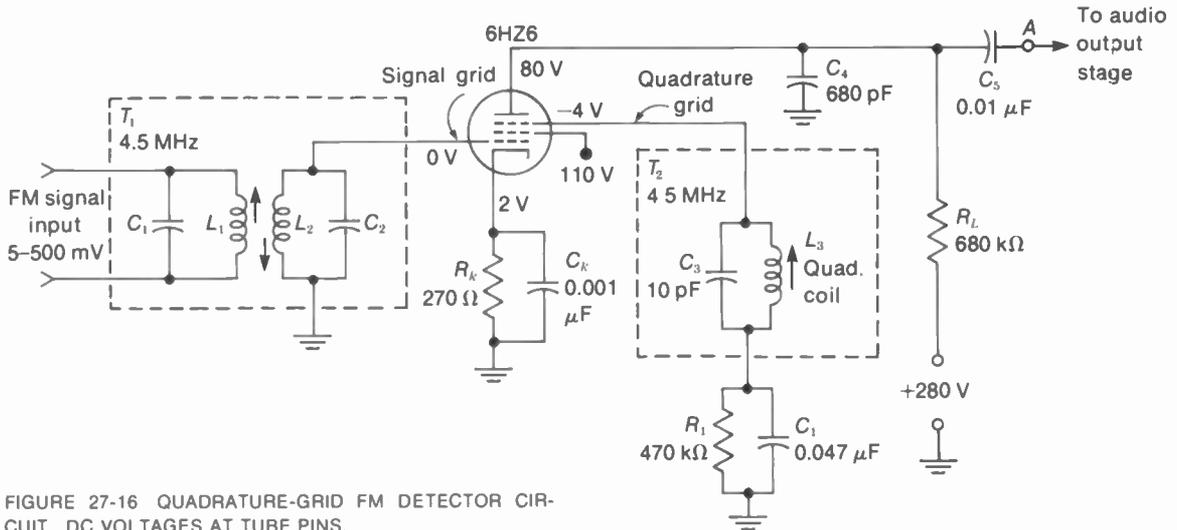

FIGURE 27-16 QUADRATURE-GRID FM DETECTOR CIRCUIT. DC VOLTAGES AT TUBE PINS.
This circuit uses a pentode combining the functions of FM detector, AM limiter, and first audio amplifier. As shown in Fig. 27-16, the audio sig-
Referring to Fig. 27-16, the IF FM signal is applied to grid 1, which is the signal grid. Grid 3 also has the signal, but in quadrature phase, by space-charge coupling within the tube. The detected audio output is produced in the plate circuit because of the  $90^\circ$  phase between signals at grid 1 and grid 3.
**Circuit operation.** In Fig. 27-16, the 4.5-MHz sound signal is coupled by  $T_1$  to the signal grid of the FM detector. This signal is also in the quadrature-grid circuit, because of space-charge coupling, but  $90^\circ$  out of phase with the input signal. The quadrature coil  $L_3$  is adjusted to resonate with  $C_3$  at the IF center frequency of 4.5 MHz. Grid-leak bias is provided by  $R_1C_1$ .
**Quadrature-grid detector alignment.** This circuit is usually aligned with FM input signal from a broadcast station. The procedure is to adjust the quadrature coil, 4.5-MHz IF transformers, and 4.5-MHz sound takeoff trap for best sound, with increasing volume and minimum distortion. In addition, a dc voltmeter to check grid-leak bias on the quadrature grid will read maximum. This voltage can be measured across  $R_1$  in Fig. 27-16.
10. In the quadrature-grid detector, the input IF transformer and quadrature coil are tuned to center frequency (see Fig. 27-16). No limiter stage is necessary, as the detector rejects AM interference. The amplified audio output in the plate circuit is enough to drive the audio output stage.